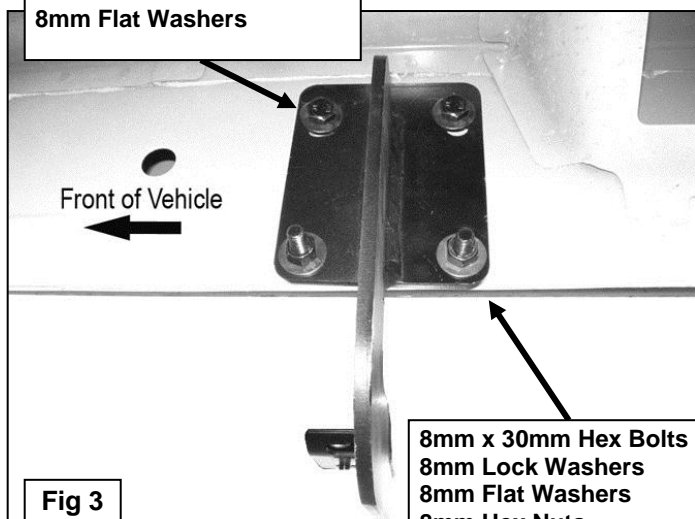

Fig 3
3. Partially attach passenger side Mounting Brackets to the previously installed Clip Nuts using the included (1 or 2) 8mm x 30mm Hex Bolts, (1 or 2) 8mm Lock Washers, and (1 or 2) 8mm Flat Washers, (**Figure 3**). **NOTE:** Cradles on the Mounting Brackets should face the front of the vehicle.
4. Attach the (2) bottom holes in the Mounting Bracket to the (2) holes in the pinch weld using the included (2) 8mm x 30mm Hex Bolts, (2) 8mm Lock Washers, (4) 8mm Flat Washers and (2) 8mm Hex Nuts, (**Figure 3**). Do not tighten hardware at this time.